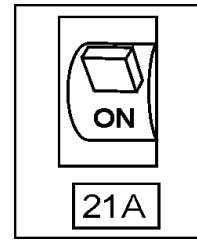

Figure 22. Main Circuit Breakers (Off)
- Place the main circuit breaker (Figure 22) in the **OFF** position.